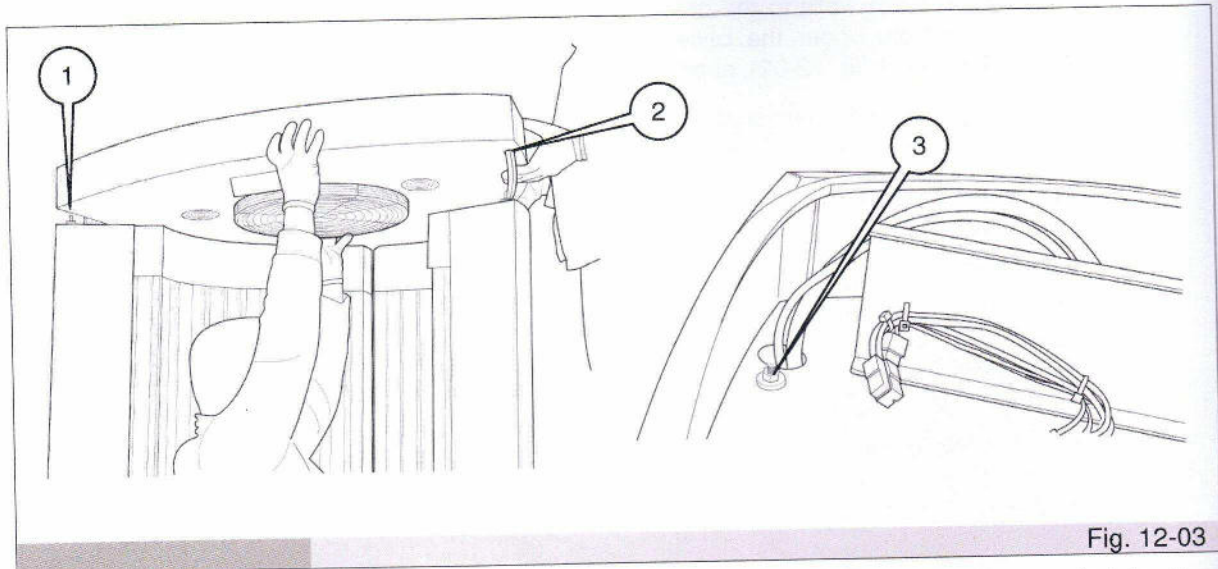
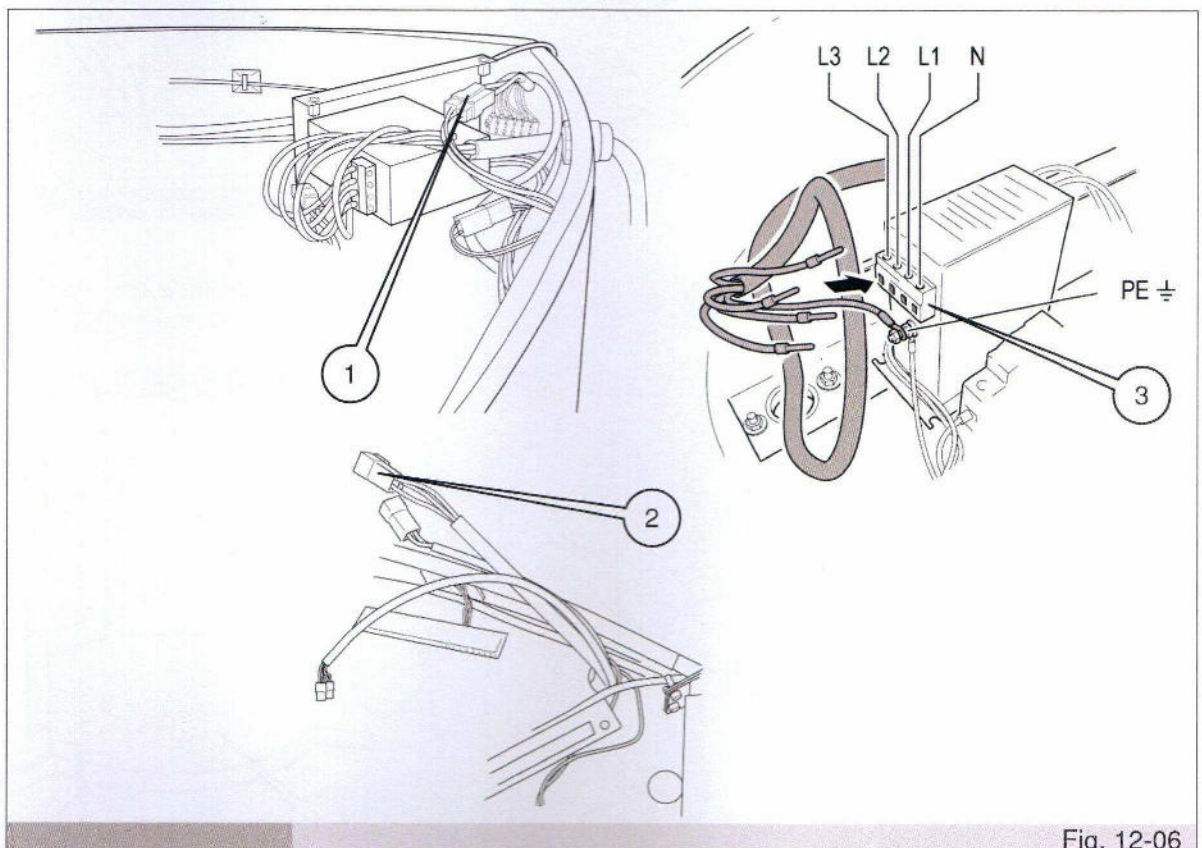

Fig. 12-03
Fig. 12-06
- Lift the roof and place it on the walls, inserting the M6 supports (ref. 1 fig. 12-03) on the walls in the holes in the roof; when positioning the roof, make sure the cables pass through the guide holes (ref. 2 fig. 12-03). When the roof is correctly positioned on the walls, insert the washers and M6 nuts on the M6 supports jutting through the roof (ref. 3 fig. 12-03); fit the nuts on loosely at first so that the roof can then be raised to facilitate insertion of the door.
- Make the connections, connecting the roof's terminals to those on the walls and door (ref. 1 fig. 12-06). Attach the roof to the side walls by fully screwing down the washers and M6 nuts (ref. 2 fig. 12-03) loosely applied earlier on.
If the appliance was supplied with vibrating plate (optional), make the connections by connecting the roof's terminals with those on the left-hand wall to make the vibrating plate's electrical connection (ref. 2 fig. 12-06).
- Connect the power cable to the network filter (ref. 3 fig. 12-06).